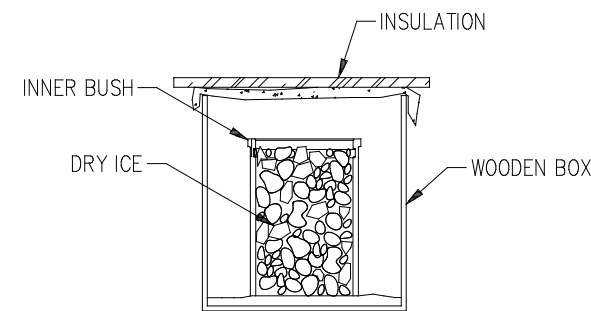

Fig. 6.7.5
3. Place the inner bush into a wooden box or similar and cool it with dry ice. (Fig. 6.7.5). The quantity of dry ice to be used and the cooling hours are the same as for removal.